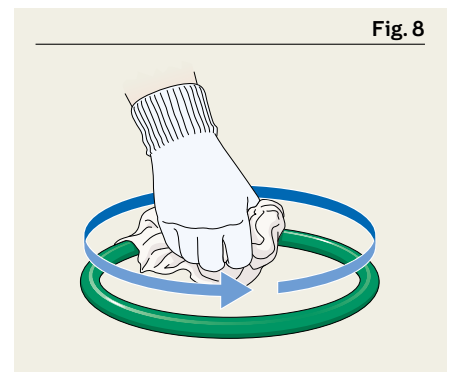

Fig. 8
- 4 Clean the o-rings using a lint-free cloth with a volatile solvent or industrial degreasing alcohol (**Fig. 8**).